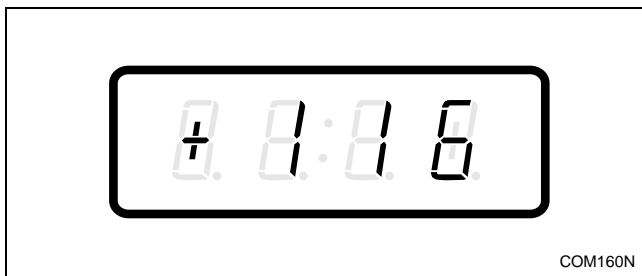

Figure 211
3. Press the DELICATES (+) or the COLD (-) keypad to scroll through the programmable options until “+116” appears in the VFD. Refer to *Figure 211*.